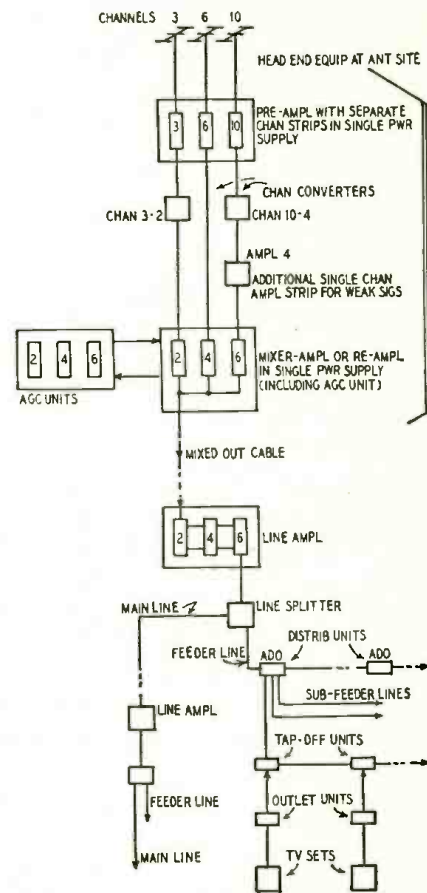

Fig. 4—Jerrold community-TV system. Channel converters eliminate high-band losses in transmission lines, and reduce adjacent-channel interference.
4. Individual-channel preamplifiers; high-to-low and low-to-low channel converters (either or both); similar strip-type re-amplifiers with output-mixing networks and a.g.c. See Fig. 4. RCA, Jerrold, and International Telemeter use this system.
rounded by 500-foot hills. Vertical-tilt effects were obtained by installing horizontal antennas $\frac{1}{2}$ or $1\frac{1}{2}$ wavelengths above ground. This creates two main lobes at equal angles to the horizontal. (See Fig. 4.)
Fig. 4—Mounting a half-wave horizontal dipole at a multiple of one-half wavelength above the ground splits the main forward lobe into two or more tilted lobes. These improve pickup of signals arriving at vertical angles.